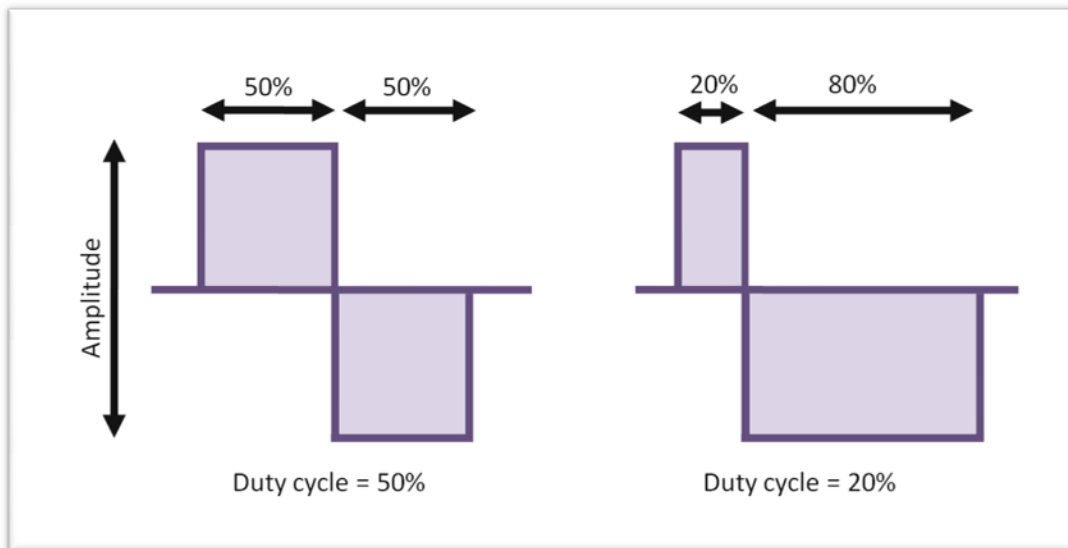

Figure 20 Wave
④ The **Period** is the sampling used for generating the points, in milliseconds, e.g. 2ms.
⑤ The user may want the wave to describe a non-symmetric cycle. The **DutyCycle** defines the percentage of the cycle run on the positive side. A DutyCycle of 50% corresponds to a symmetric cycle (see Figure 20 below).
⑥ When using a predefined generator, the user can select the maximum **Amplitude** of the generated signal, expressed in the physical unit of the output signal (see Figure 20 below).
⑦ The user may want the generated wave to oscillate around a non-zero value. This can be done by selecting a non-zero **Offset** in the configuration.
- ⑧ The **Span** is a percentage factor applied to the generated signal (e.g. 100%).
- ⑨ The **Counter** is total number of waves the user wants to accomplish. A counter equal to zero means that the wave will be repeated until infinite.
- ⑩ **Slope Inc** is an obsolete voice and therefore not to be filled in